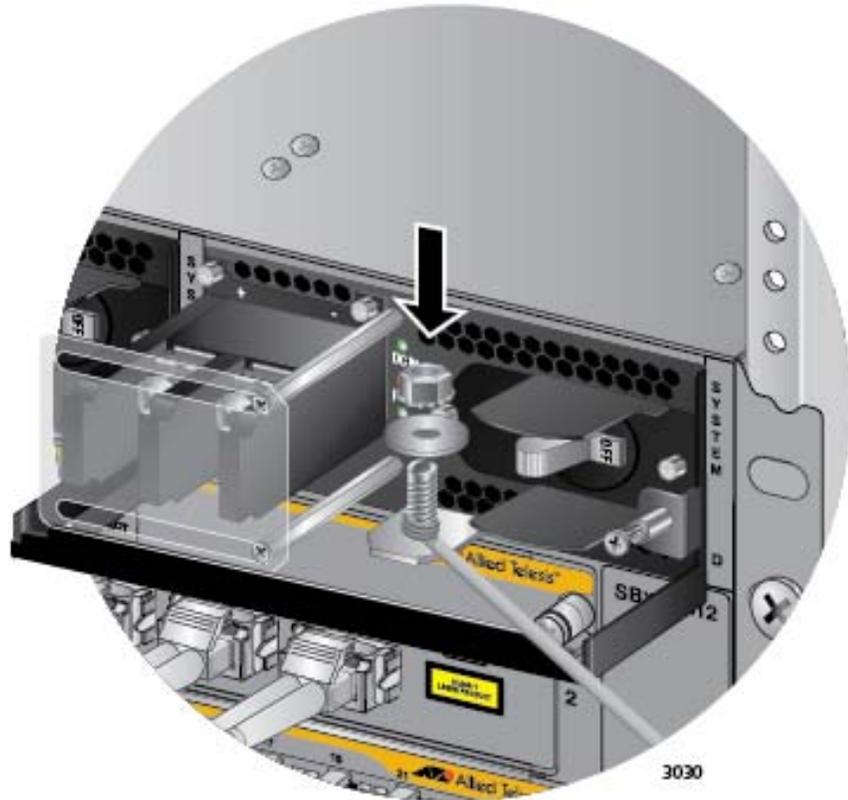

Figure 119. Securing the Bare Grounding Wire to the Grounding Post
- Secure the wire with the nut and washer removed in step 2, and an 8 mm wrench, as shown in Figure 119.